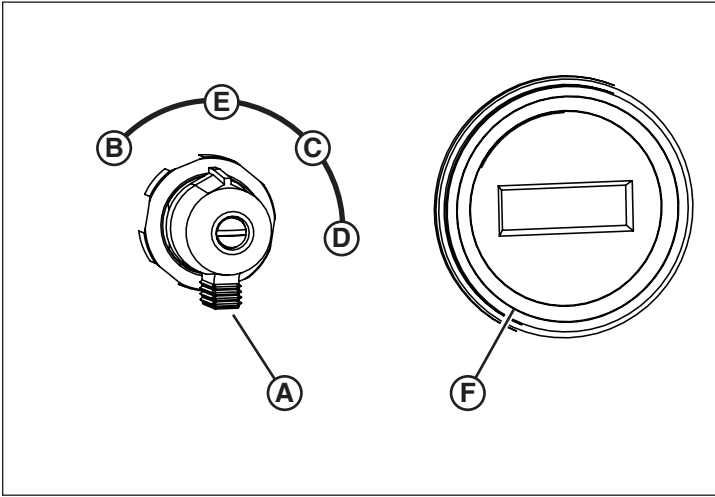

Figure 15
1. Turn the ignition switch (A, Figure 15) on the control panel counterclockwise to PREHEAT (B). Hold for approximately 20 seconds.
2. Turn the switch clockwise past RUN (C, Figure 15) to START (D).
NOTE: The hourmeter (F, Figure 15) indicates the total hours of engine operation.
1. Turn the ignition switch counterclockwise to the OFF position (A, Figure 15).